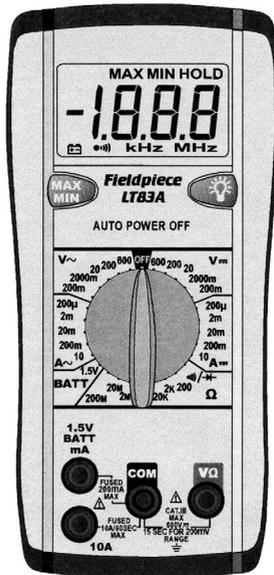

Fig. I-22 Multimeter used to measure ohms, volts, and milliamperes as well as microamperes. (Fieldpiece)
- **Ohmmeter.** The basic unit for measuring resistance is *ohm*. An ohmmeter is a device for measuring resistance in ohms (Ω). It is an ammeter (or milliammeter or micrometer) movement modified to measure resistance (Fig. I-22).
Figure I-22 shows a multimeter capable of measuring ohms with three different ranges: $R \times 1$, $R \times 100$, and $R \times 10K$ ($R \times 10,000$). This means the meter can measure from 0 to 200 Ω on the $R \times 1$ scale and 0 to 200 $k\Omega$ on the $R \times 100$ range. Within the $R \times 10K$ range, it is capable of measuring from 0 to 20 $M\Omega$ (megohms; mega means 1 million). The meter scale has to be multiplied by 100 or 10,000 in order to have it read the proper value. By changing resistors, it is possible to vary the resistance measuring range of an ohmmeter. Figure I-23 shows a basic ohmmeter using a 1-mA meter movement and its necessary parts. Note how the battery serves as the power source. This makes it necessary to turn off power whenever you read the resistance of a circuit. THE OHMMETER HAS ITS OWN POWER SOURCE. Do not connect it to a LIVE CIRCUIT or one with the power on, because that will result in destruction of the meter movement.